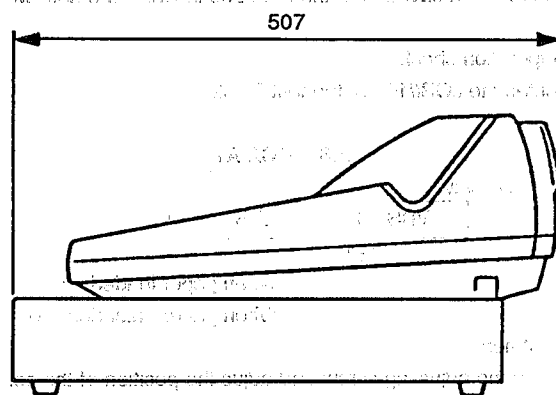

Fig. 13-12
5. With this, the dept changes from 507mm to 467mm which become 40mm shorter (Figs. 13-12 and 13-13).